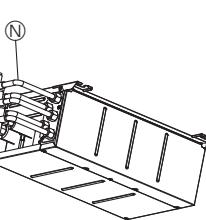

Fig. 8-7
- To divide the wirings of each terminal block into 2 branches outside the branch box, use 2-branch wiring conduits ⑩. (Fig. 8-7)